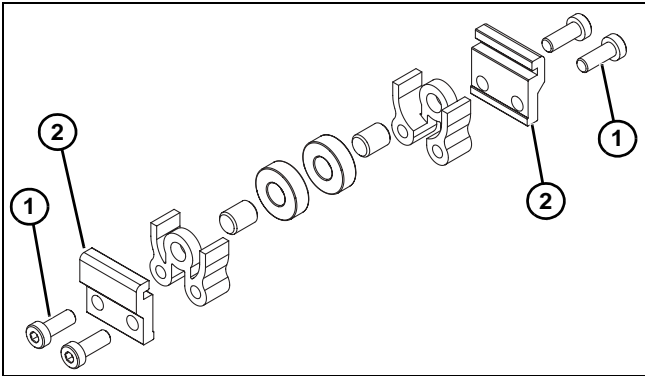
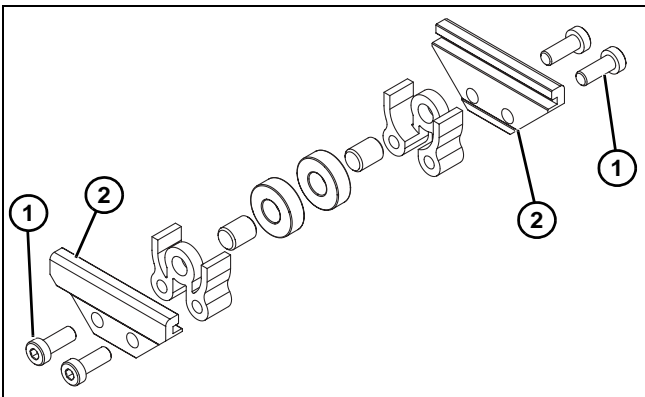

Figure 17
Figure 18
1. Locate return rollers. Exploded views shown in Figure 17 & Figure 18.
2. Remove screws (Figure 17, item 1) & (Figure 18, item 1) and clips (Figure 17, item 2) & (Figure 18, item 2) from roller assembly.